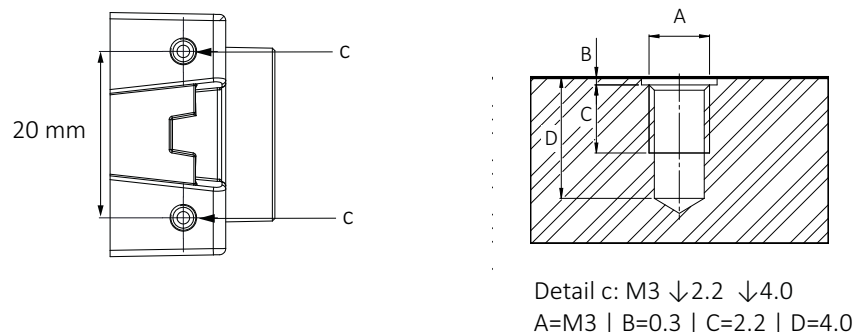

Figure 99: Top and bottom and mounting threads (c)
1. Mount the camera to the base using suitable M3 screws at 0.51 Nm maximum torque for a thread engagement (C) of 2.2 mm between screws and mounting threads, see Figure 99. For technical drawings, see Standard Alvium: Dimensions and mass on page 216.